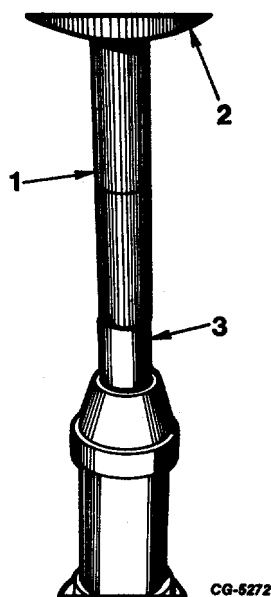

Fig. 31 Installing Lower Bushing Using Installer SE-1955-7.
- Position distributor housing in press. Insert bushing installer (SE-1955-7) into bushing (Figure 31).